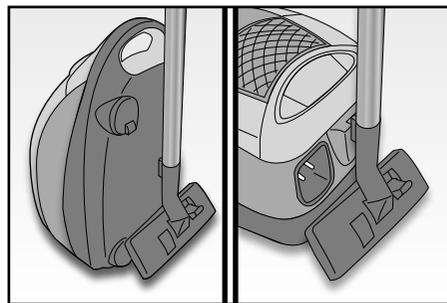

Fig. 7
- The appliance can be stored using the special rear hook for the floor brush (FIG. 7).